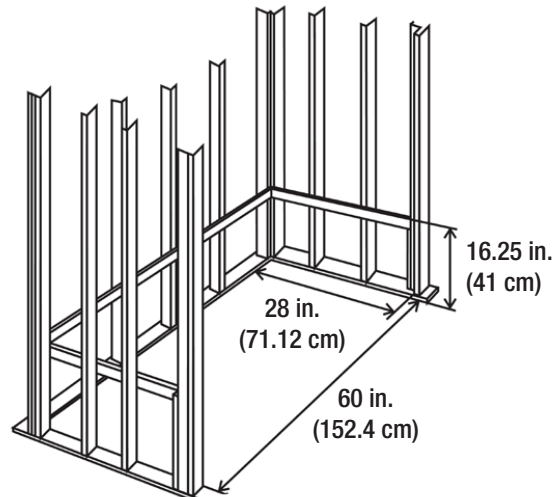

Fig. 4
6. Refer to Fig. 4 for approximate location of strapping. Rough in the 1 in. x 4 in. (2.54 cm x 10.16 cm) wood strapping.